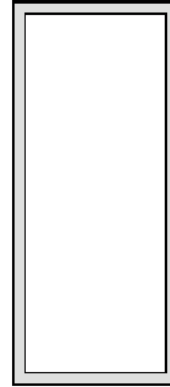

Figure 26. Solder Paste Application on Pins
5. The aperture opening for the signal pads should be between 50–80% of the QFN pad area as shown in Figure 26.